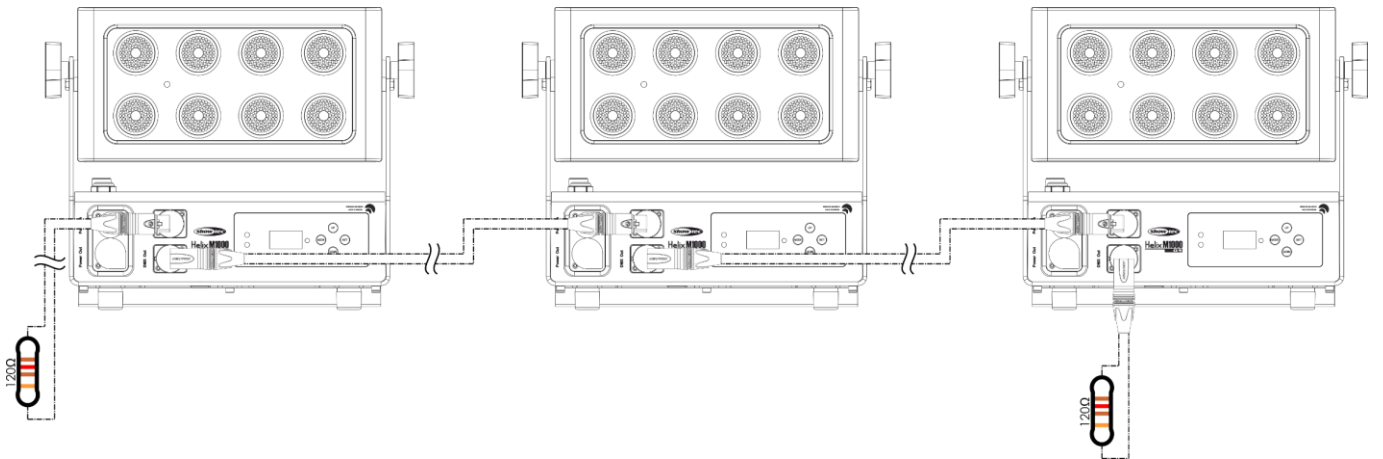

Fig. 10
- 06) Link the units as shown in Fig. 10. Connect a DMX signal cable from the first unit's DMX "out" socket to the second unit's "in" socket. Repeat this process to link the second and third units. **Press the power switches ON/OFF (08) on all slave devices, for the light output to be visible.** You can use the same functions on the master device as described on pages 26–27. This means that you can set your desired operation mode on the master device and all slave devices will react the same as the master device.